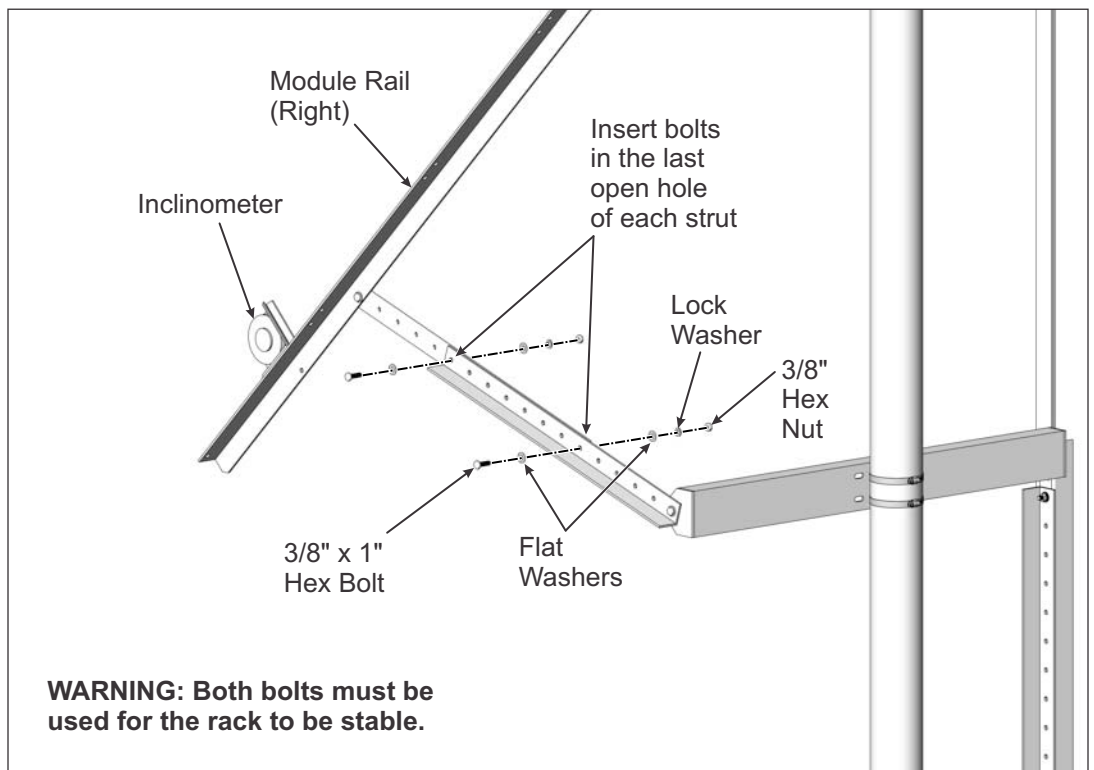

Figure 5-1: Joining the Two Halves of the Expandable Struts
- C. Secure the two halves with 3/8" x 1" hex bolt, lock washer, flat washers, and Hex Nut. Be sure and insert the bolts in the last hole on each of the two halves as shown in Figure 5-1. **Torque to 32-34 ft.-lbs.**